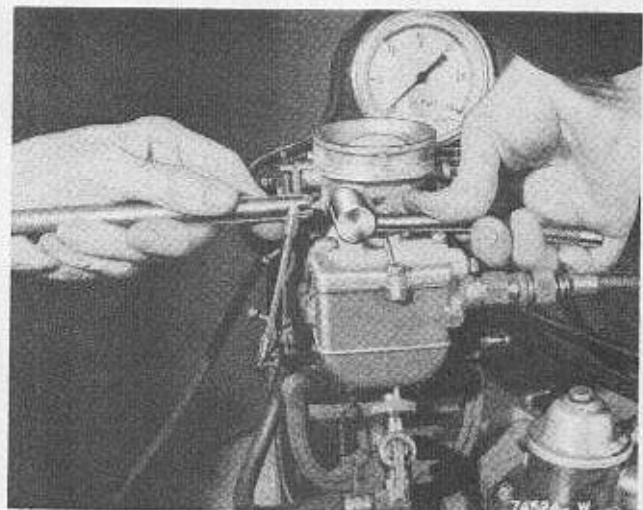

Fig. 36
**66** To bend the accelerating pump lever (40-9531) use tools #9531-A and #9531-B as shown in Fig. 36.